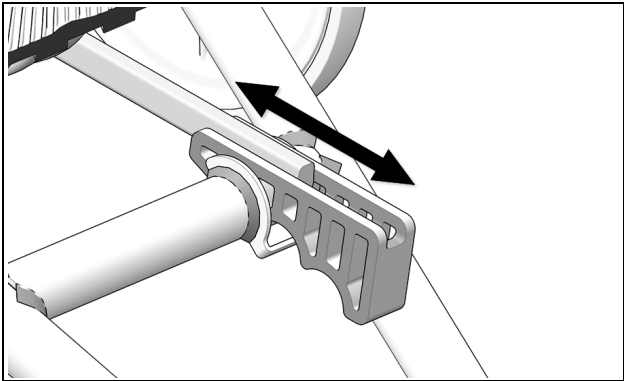

Figure 13
- Position Tension Cam in its seat on the suspension arm. Move cam forward or backward depending on the level of stiffness desired in the suspension. See Figure 13.